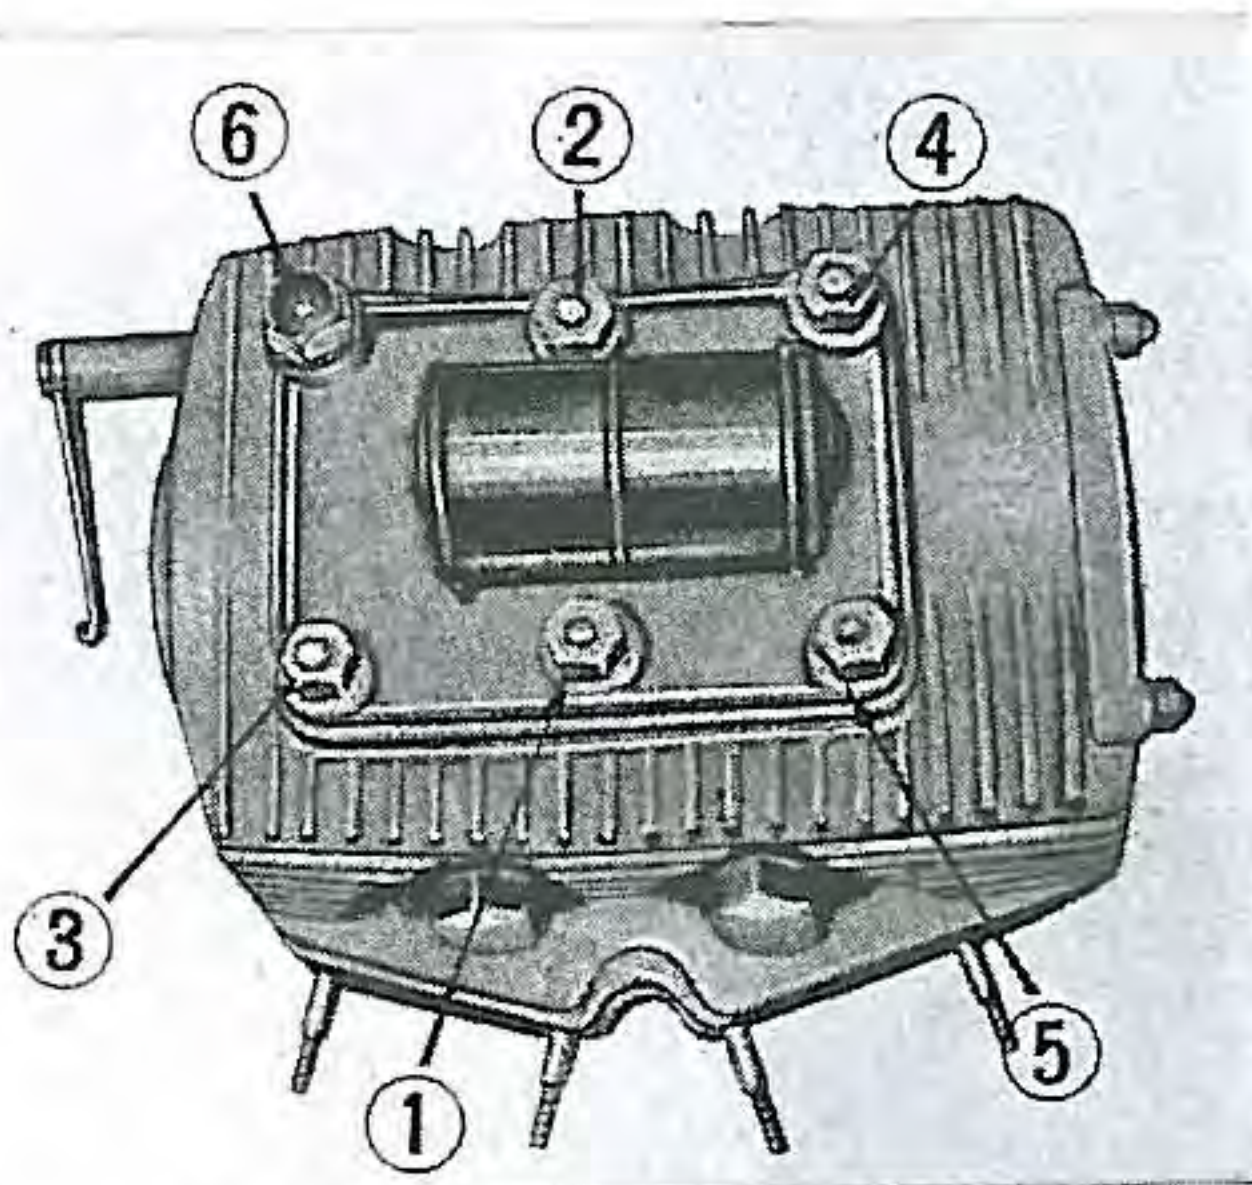

Fig. 45. Tightening order of cylinder stud nuts
- (6) After fitting the head gasket, cam chain case packing and 10 mm O-ring for the oil passage, place the cylinder head on the cylinder while threading the cam chain along both sides of the chain guide roller in the cam chain case of the cylinder. Fit the cylinder head cover packing in place, install the cylinder head cover and tighten down stud nuts with flat washers under each. Apply a thin coat of gasket sealant before fitting the right rear nut, which is dome-headed. It is important that the nuts be tightened gradually in the correct sequence. (Fig. 45, 46) Tightening torque is 10-15 ft-lbs.